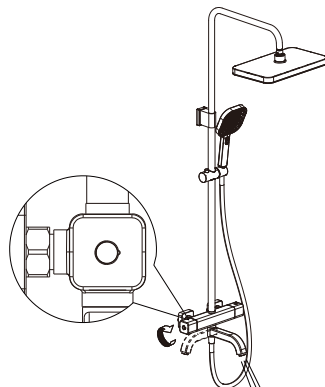

Figure 14D
- ④ Rotate the diverter handwheel 90° clockwise from the closed position, and move the bath water outlet perpendicular to the mixer, to switch to bath shower mode. (Shown in Figure 14D)